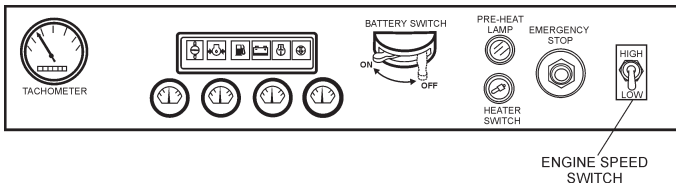

Figure 59. Engine Operating Panel
Steps 20 thru 26 are referenced for Engine Operating Panel S/N 3698617~. See Figure 59 below. This unit does not have an ignition switch or a throttle handle. It does have an “**engine speed switch**” that is used in conjunction with the MPEC unit.
21. Press and hold the engine preheat button (Figure 59) until the preheat lamp is lit (**ON**).